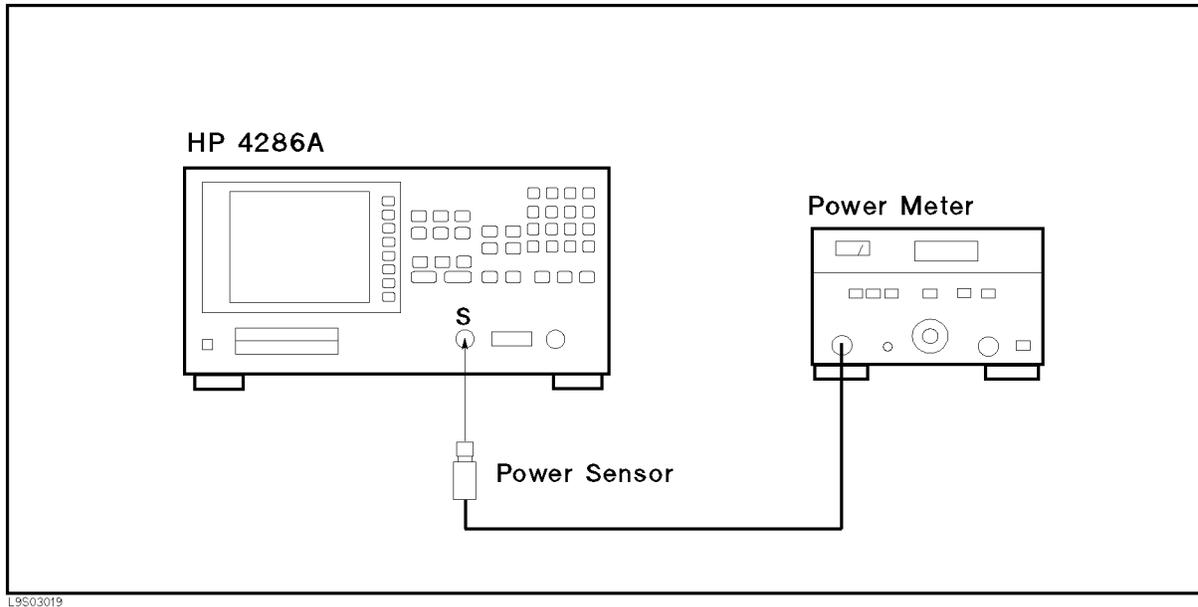

Figure 4-2. Source Test Setup
3. Connect the equipment as shown in Figure 4-2.